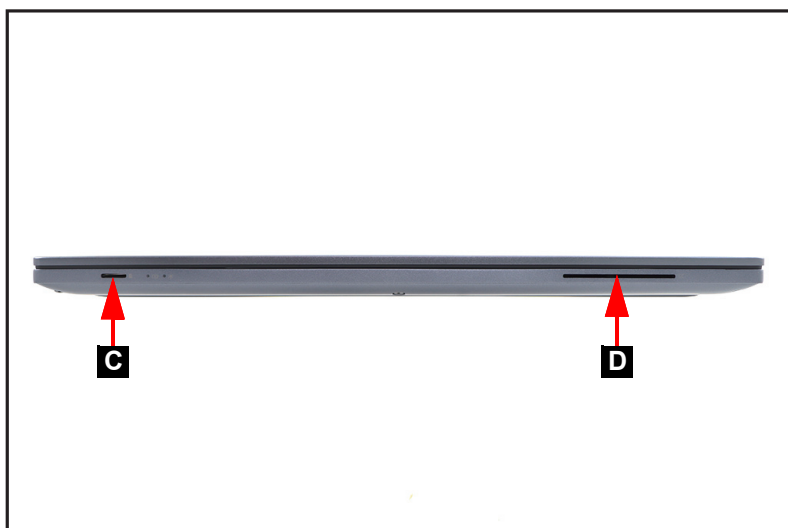

Figure 1-2. SD Card and Smart Card Removal
4. Remove the SD card from the SD card slot (C). Then remove the smart card from the smart card slot (D) (Figure 1-2).